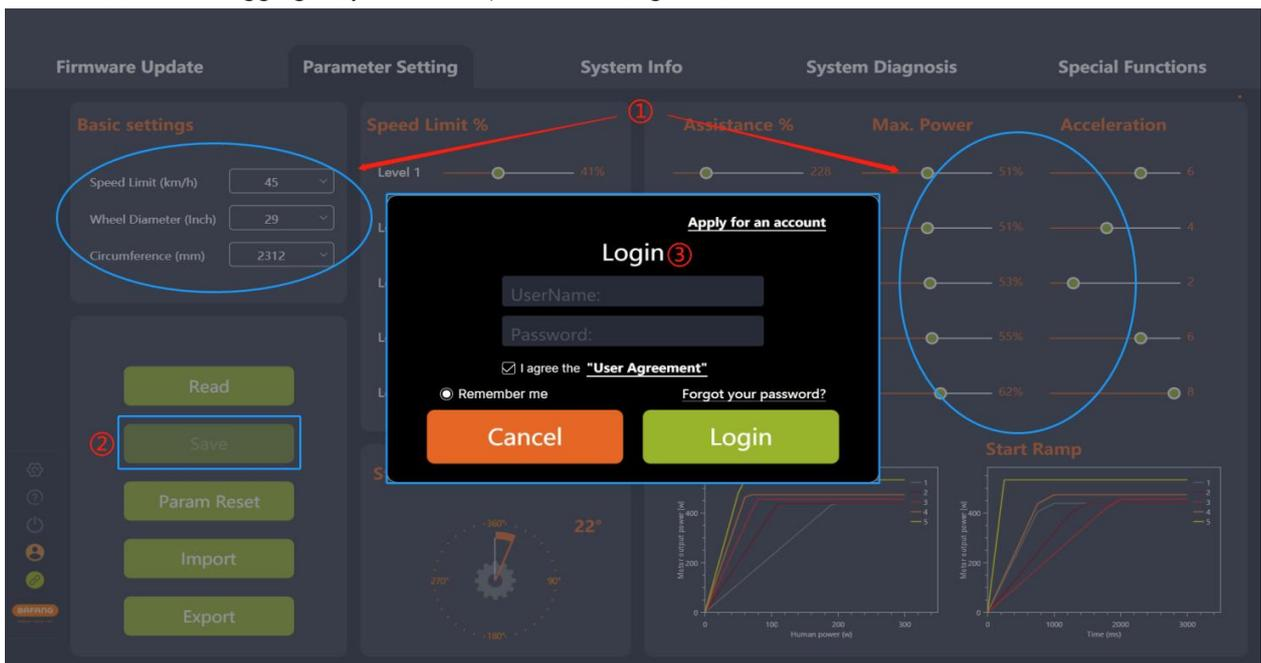

Fig. 5-13 Login
- (1) After reading successfully, adjust the parameters on the right side by pulling the slider.
- (2) After adjusting, click "Save" to save the new parameters to the controller.
- (3) If you are not logged in, the "Login" interface will pop up, prompting you to log in (Fig.5-13).